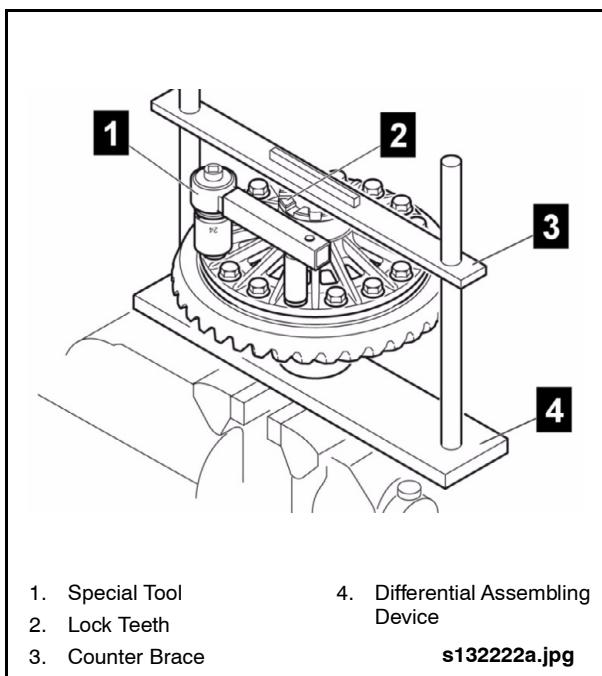

Fig. 2-59: Crown Gear Bolt Loosening
6. Install the special bolt removal/tightening tool on each of the crown gear mounting bolts and loosen each bolt. See "Fig. 2-59: Crown Gear Bolt Loosening" on page 51.